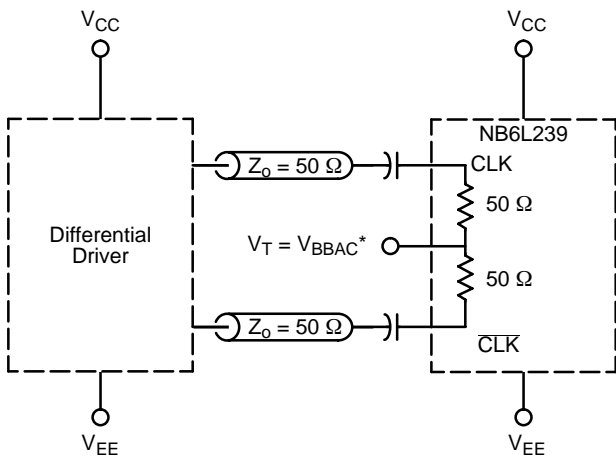

Figure 16. Capacitor-Coupled Differential Interface (V_T Connected to V_{BBAC})
7. V_{BBAC} used to rebias capacitor-coupled inputs only (see Figures 16 and 17).